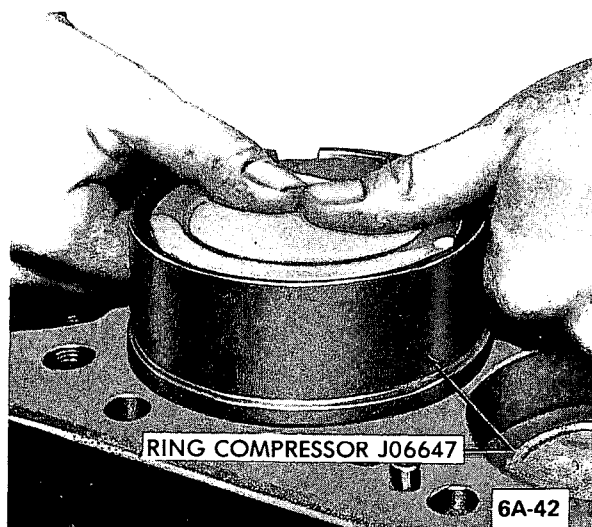

Figure 6A-38 Installing Piston with Ring Compressor
13. Lubricate the piston and rings and install in bore by compressing the rings either with a "wrap around" compressor or a split ring type such as shown in Figure 6A-38.